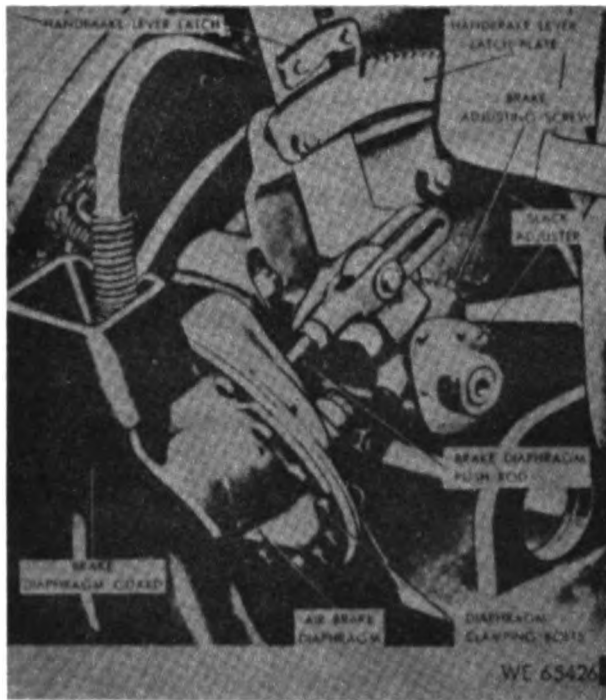

Figure 151. Air brake diaphragm and slack adjuster.
**g. Air Brake Diaphragms.** Two air brake diaphragms (fig. 151), one for each brake, convert the energy of the compressed air into the mechanical force necessary to operate the brake mechanisms. The air hose connection is protected by the brake diaphragm guard.
**h. Slack Adjusters.** The slack adjusters (fig. 151) serve as levers to connect the brake mechanisms with the air brake diaphragms. They also provide a convenient method of brake adjustment (par. 122e). During braking, the slack adjusters rotate bodily with the brake camshafts (fig. 152) as the brakes are applied or released.
**i. Handbrake Levers.** A handbrake lever (fig. 151) is provided for each carriage brake. It is pivoted on the brake cam.
shaft just inside the wheel. The handbrake lever is positioned under the slack adjuster so that when the lever is pulled to the rear it lifts the slack adjuster, causing the brake camshaft to rotate and apply the brake. A handbrake lever latch (fig. 151), controlled by the spring-loaded hand grip lever, engages the teeth of the handbrake lever latch plate and retains the handbrake lever in position when the handbrakes are applied. When handbrake latch is positioned in the third notch of rack, brake must be fully engaged.
(1) Test the entire air brake system for air leaks bimonthly, or when a leak is evidenced by weak or intermittent brakes, by applying soapsuds with the system under pressure to all air hoses, air brake hose connectors and other hose connections, air brake hose couplings, air filters, air brake diaphragms, and emergency valve and air tank. Any leak causing a soap bubble of 2-inch diameter in 5 seconds is considered serious; if it cannot be remedied by the methods herein outlined or if a leak is found in any air brake hose, notify ordnance maintenance personnel.
(2) Apply soapsuds to the edges of the air brake diaphragms (fig. 151) and around all diaphragm clamping bolts. If a leakage of air is evidenced by the formation of a soap bubble, tighten all clamping bolts in such sequence that successively tightened bolts are positioned on the diaphragm as nearly diagonally from each other as possible. If this fails to stop the leak, notify ordnance maintenance personnel.
(3) Test all air brake hose connectors for leakage. If a leak occurs at the joint between the connector body and connector nut, tighten the nut. If this does not correct the leak, notify ordnance personnel.
(4) Apply soapsuds to the air brake hose couplings. If a leak occurs at a coupling and it is securely in position, detach the coupling from the prime mover, remove the air brake hose coupling packing ring (para. 120b) and replace it with a new one.
- (1) Check the travel of the brake diaphragm push rods (fig. 151) monthly by measuring the distance each push rod extends from its air brake diaphragm with the brakes released and with the brakes applied. If the push rod travel is less than three-quarters of an inch, or more than one inch, adjust the brakes.
- (3) Rotate the wheel and, at the same time, turn the brake adjusting screw (fig. 151) on the slack adjuster until the brake stops the wheel from turning. Then back off the adjusting screw until the wheel turns freely.